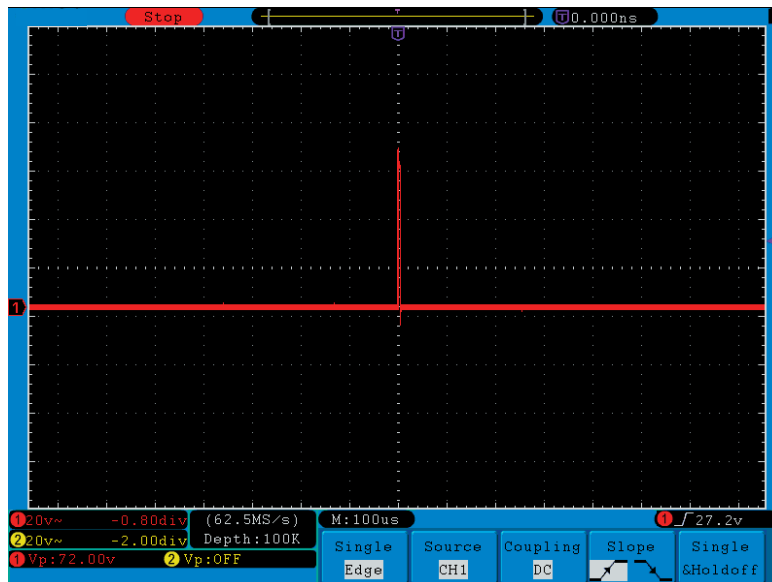

Fig.6-3 Capturing a Single Signal
- (4) Press the **H1** button to display the Acquire Mode menu.
- (5) Press the **F2** button to choose **Peak detect**.
- (6) Press the **Trigger Menu** button to display the Trigger menu.
- (7) Press the **H1** button to display the Trigger Type menu.
- (8) Turn the **G** knob to choose **Edge** as the mode.
- (9) Press the **H2** button to display the **Source** menu.
- (10) Press the **F1** button to choose **CH1** as the source.
- (11) Press the **H3** button to display the Coupling menu; press the F2 button to choose **DC** as the Coupling.
- (12) Press the **H4** button to choose  (rising) as the Slope.
- (13) Rotate the **TRIG LEVEL** knob and adjust the trigger level to the roughly 50% of the signal to be measured.
- (14) Check the Trigger State Indicator on the top of the screen, if it is not Ready, push down the **Run/Stop** button and start acquiring, wait for trigger to happen. If a signal reaches to the set trigger level, one sampling will be made and then displayed in the screen. By using this approach, a random pulse can be captured easily. For instance, if we want to find a burst burr of high amplitude, set the trigger level to a slightly higher value of the average signal level, press the **Run/Stop** button and wait a trigger. Once there is a burr occurring, the instrument will trigger automatically and record the waveform during the period around the trigger time. By turning the **HORIZONTAL POSITION** knob in the horizontal control area in the panel, you can change the horizontal triggering position to obtain the negative delay, making an easy observation of the waveform before the burr occurs (see **Fig.6-3**).